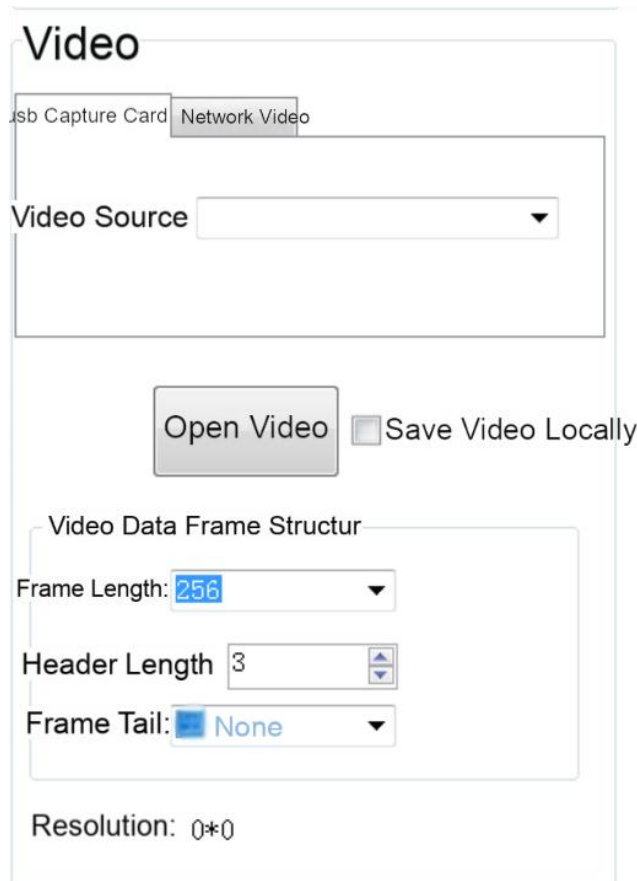
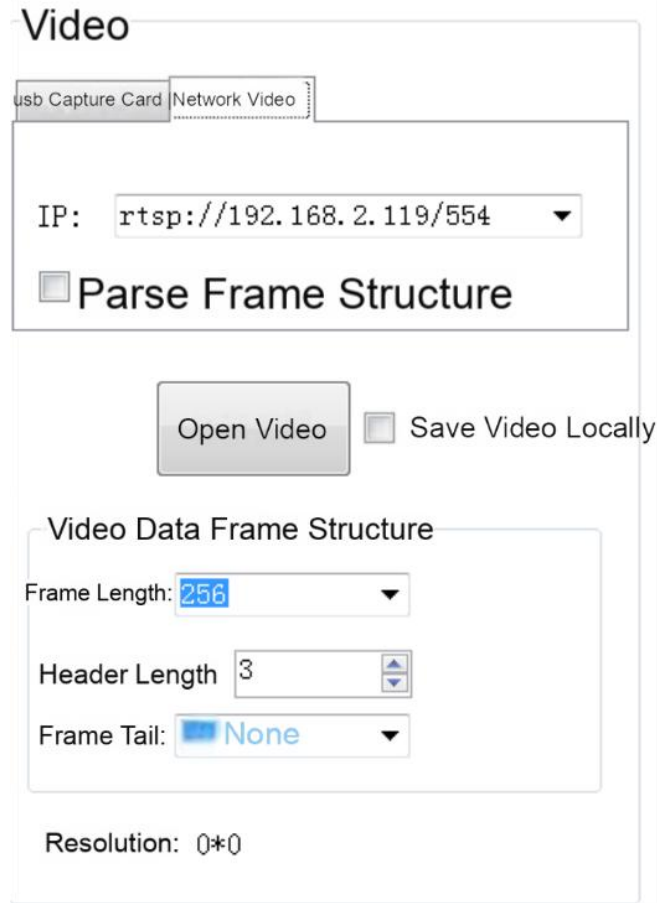

Figure 5-1 USB Capture Card Input
Figure 5-2 Network Input
- 2) As shown in Figure 5-1 and Figure 5-2, select the corresponding tab according to the input method.